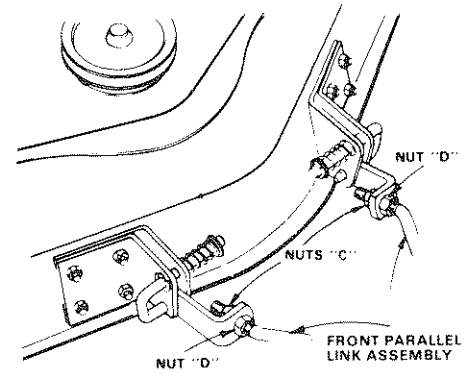

FIGURE 42
NOTE: IF AN ATTACHMENT OTHER THAN THE MOWER DECK IS TO BE MOUNTED ON THE TRACTOR, REMOVE THE FRONT PARALLEL LINK ASSEMBLY (Fig. 42).
- To raise front of mower loosen nuts "D". Screw nuts "C" up onto suspension arms (Fig. 42). NOTE: SCREW NUTS "C" ON BOTH SUSPENSION ARMS THE SAME NUMBER OF TURNS SO MOWER WILL REMAIN LEVEL. Tighten nuts "D" securely.